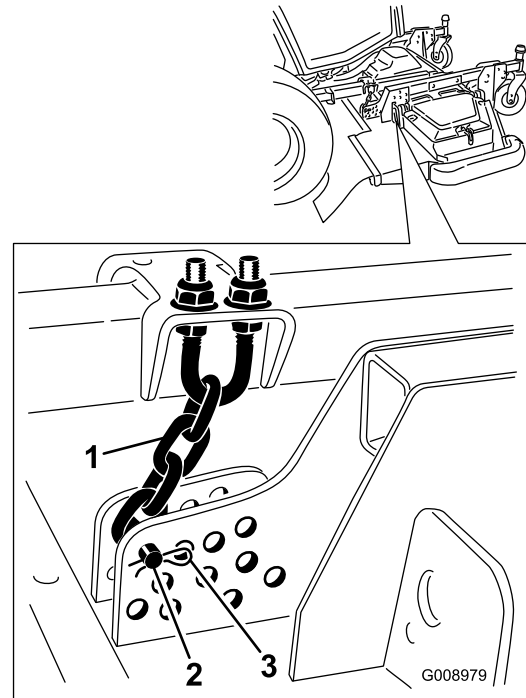

Figure 24
- Spacers (4)
- Remove the hairpin cotter and clevis pin securing the height-of-cut chains to the rear of the cutting unit (Figure 24).